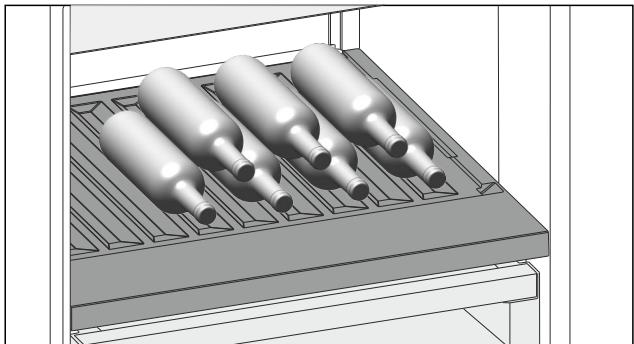

Fig. 99
- Place bottles in the back row with their bases against the back wall. (see Fig. 99)